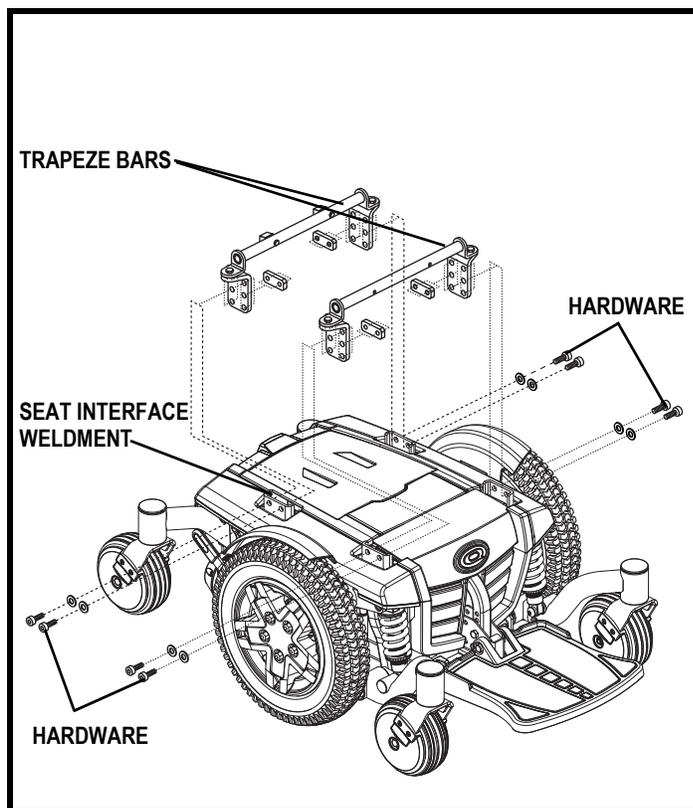

Figure 15. Seat Height/Angle Adjustment
7. Remove the hardware that attaches the trapeze bars to the seat interface weldments. See figure 15.